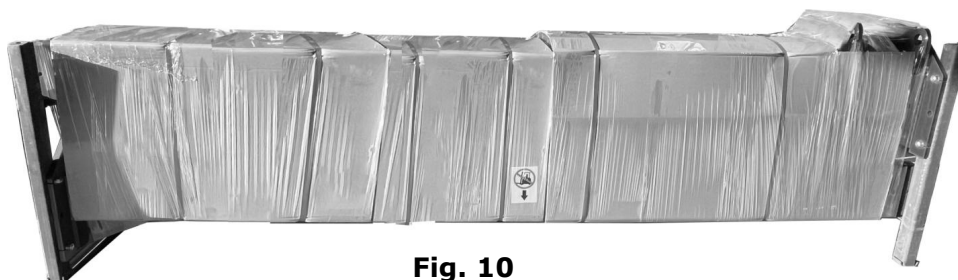

Fig. 10
1. Whole set of one unit (Packaged lift and hydraulic power unit)(See Fig. 10).